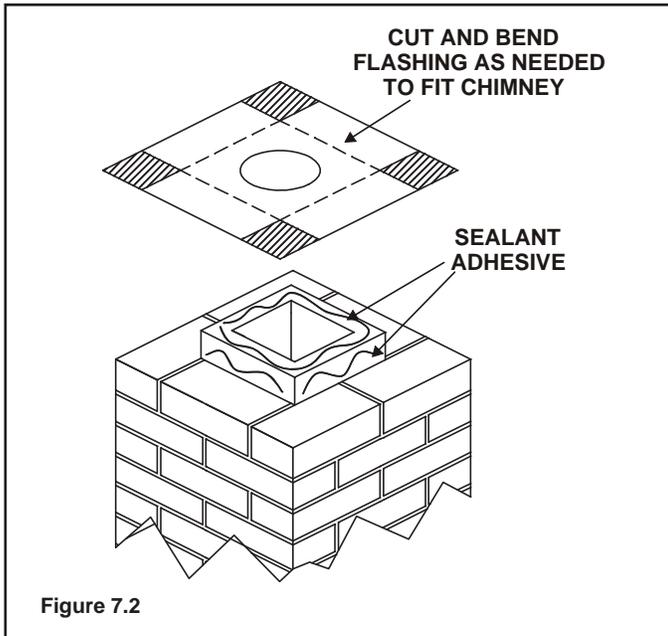

Figure 7.2
- Trim chimney top plate to minimize excess overhang or bend over flue tile (see Figure 7.2).
For installation of termination cap see minimum vent heights for various pitched roofs (see Figure 7.2) .